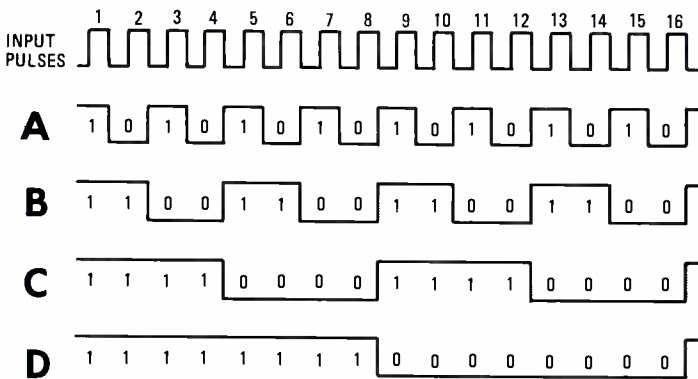

Fig. 14—Logic diagram for a 4-bit shift register.
Another sequential circuit made up of flip-flops is the shift register. Like a counter, multiple flip-flops are used to store a binary word. However, the flip-flops are interconnected in such a way that incrementing and decrementing counting operations are not achieved. Instead, the connections are such that the binary word stored in the counter is shifted either to the right or to the left. That is, as each clock pulse occurs, the bit stored in one flip-flop is shifted into the flip-flop next to it. A common 4-bit shift register is illustrated in Fig. 14. All of the clock (T) inputs are connected together to a single line. Periodic clock signals are applied to that line. The normal and complement outputs of one flip-flop are connected to the J and K inputs respectively of the next flip-flop in sequence. A single input line is used for entering data into the shift register a bit at a time.